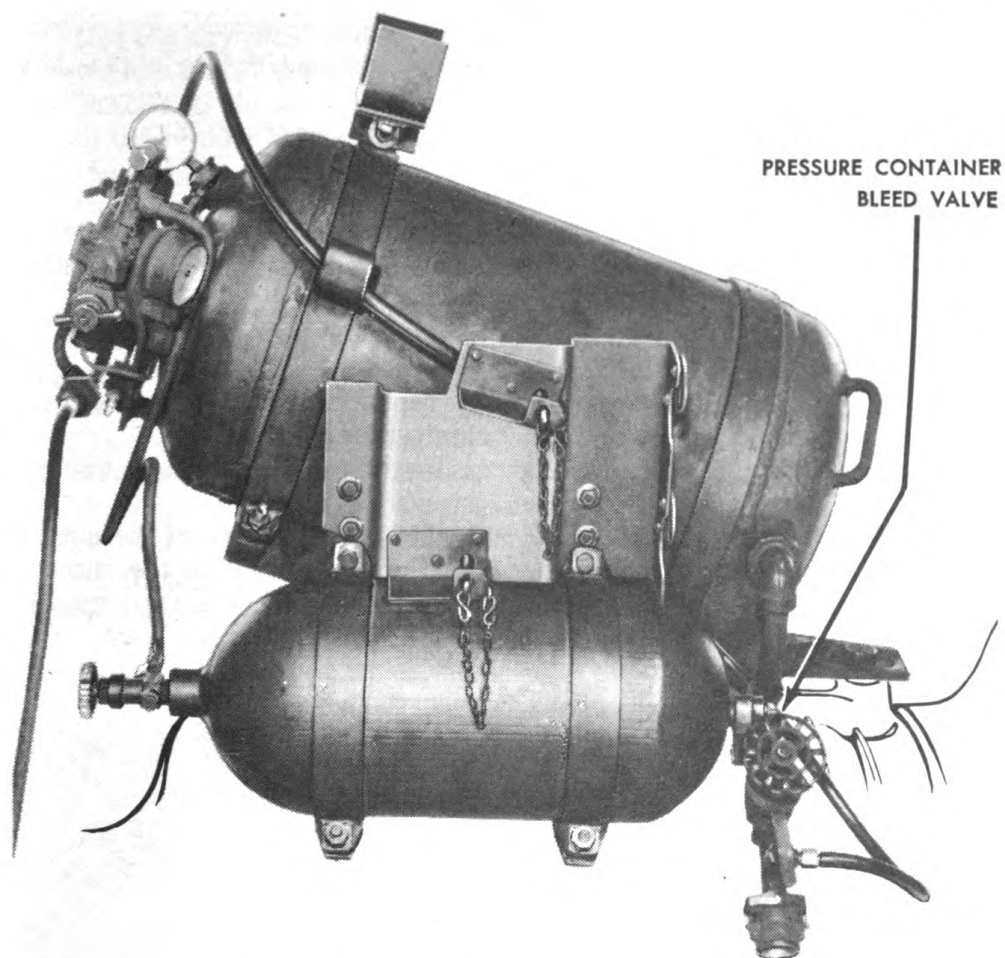

Fig. 37. Transmission fuel group completely assembled.
k. Discharge hose. Screw one end of safety head discharge hose on low pressure safety head. Tighten with wrench. Transmission fuel group is now completely assembled (fig. 37).